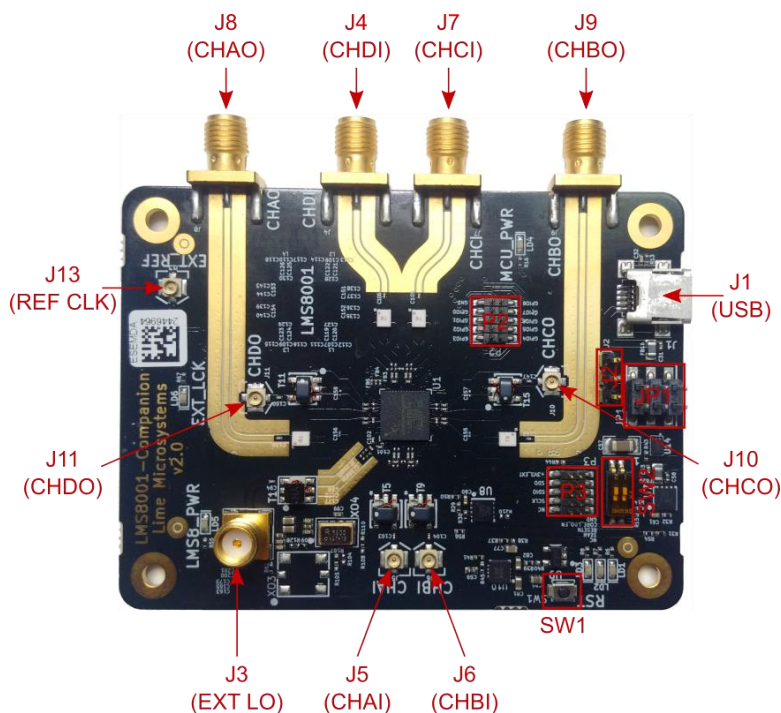

Figure 3.1: LMS8001 Companion Board RF connectors
Since GPIO signals will be used, it is necessary to connect the appropriate external signals to the P2 connector, shown in Figure 3.1.
1. Connect the appropriate DC supply via connector J2 and select the correct DC supply source using connector JP1, shown in Figure 3.1.
2. Connect the board to the PC using a USB cable. Refer to the USB Type-C connector J1 shown in Figure 3.1.